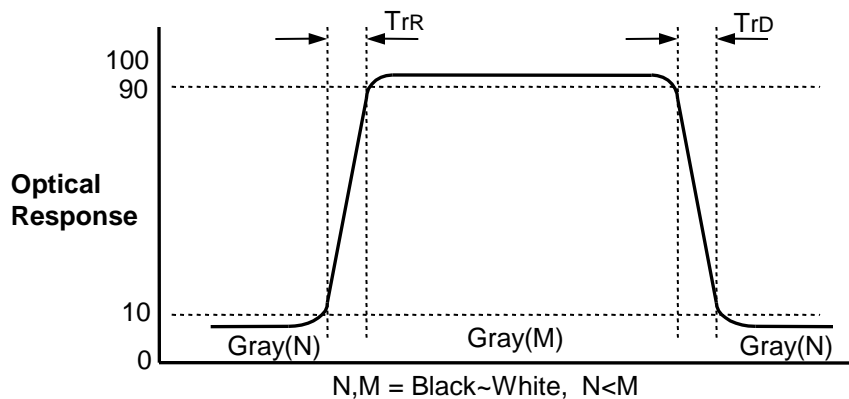

FIG. 3 Response Time
4. Response time is the time required for the display to transit from G(N) to G(M) (Rise Time, Tr_R) and from G(M) to G(N) (Decay Time, Tr_D). For additional information see the FIG. 3.($N < M$)